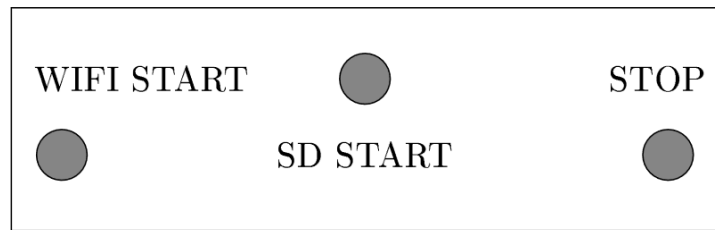

Figure 8: Buttons of the control panel
- when the OK LED is lit, you may press SD START on the control panel located on the side of the instrument box (see figure 8). Use the provided magnetic stick to operate the buttons. Once pressed, the OK led starts blinking. A few minutes later the OK led turns down to be less noticeable.